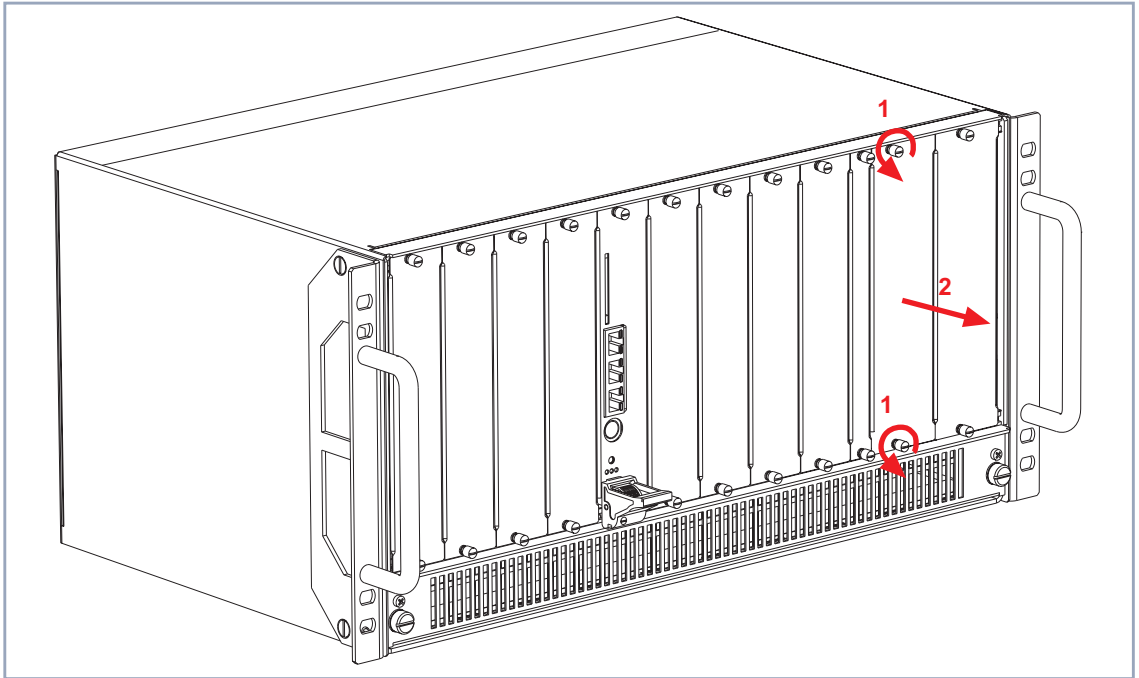

Figure 4-15: Removing the power supply unit dummy front-panel
- Loosen the screws of the power supply dummy front-panel as shown in figure 4-15, page 55, arrow no. 1.
- Remove the dummy front-panel as shown in figure 4-15, page 55, arrow no. 2.